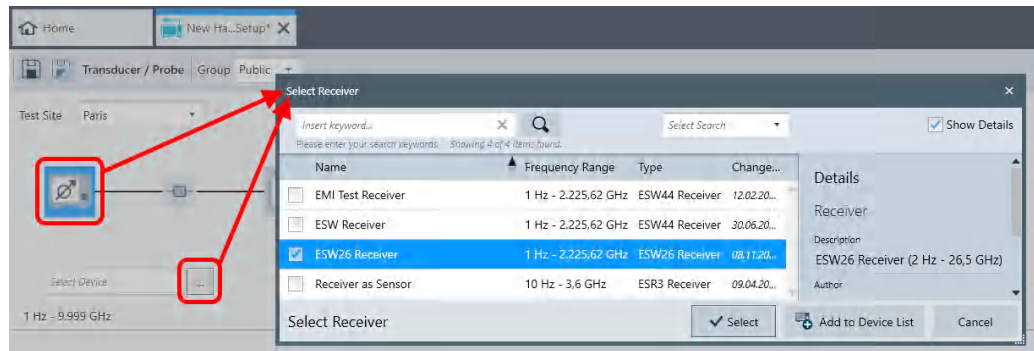

Figure 4-130: Selecting a device, here a receiver in an EMI test setup
A central building block of each hardware setup dialog is the interactive setup diagram for each frequency range. The diagram shows the hardware setup with all its lab devices, transducers and connecting signal paths (jointly called devices). Figure 4-130 shows how to select a device for integrating it into the hardware setup diagram and for configuring it.
- If a device is *not yet selected*, the buttons in the **large** and **small** red square in Figure 4-130 both open the "Select ..." dialog.
- If the device or signal path has not yet been selected (chosen), the "Select ..." dialog (shown in Figure 4-130) is opened for selecting the device.
- If the device or signal path is already selected (chosen), its name is shown in the "Select Device" field (4), where you can change the selection.